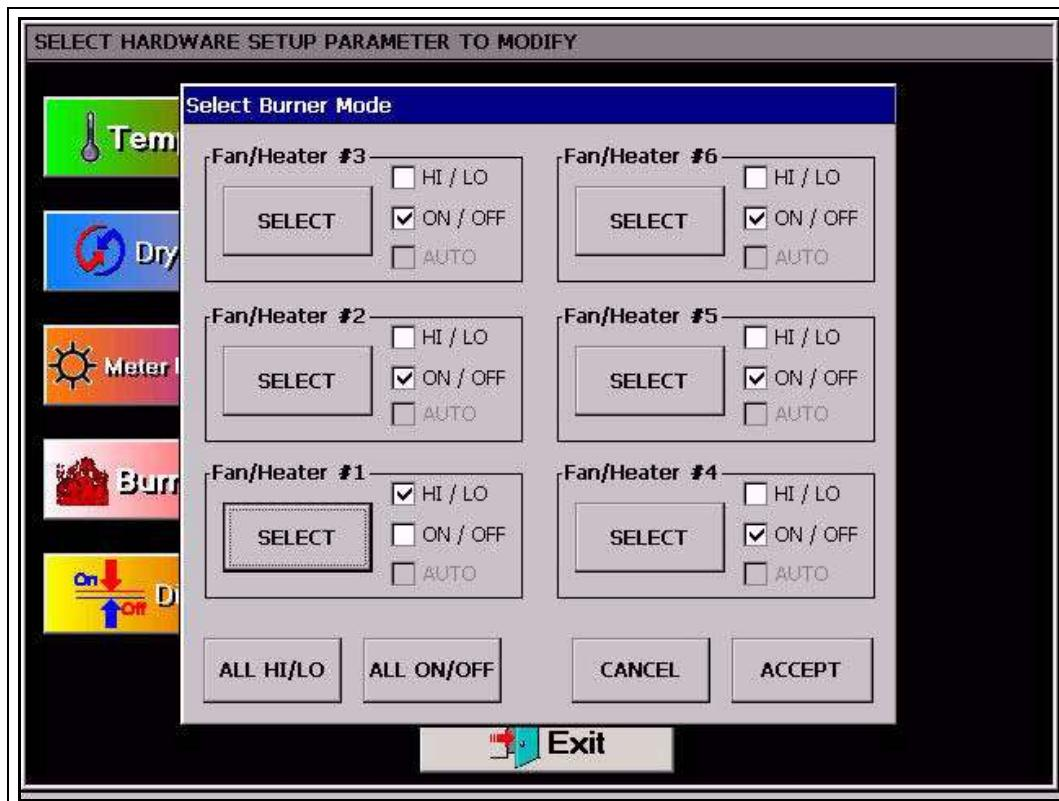

Figure 6H
5. **Burner mode:** Touching the Burner Mode button will display the Select Burner Mode screen. (See Figure 6H.) Tower dryer burner mode should always be set to ALL HIGH\LOW.